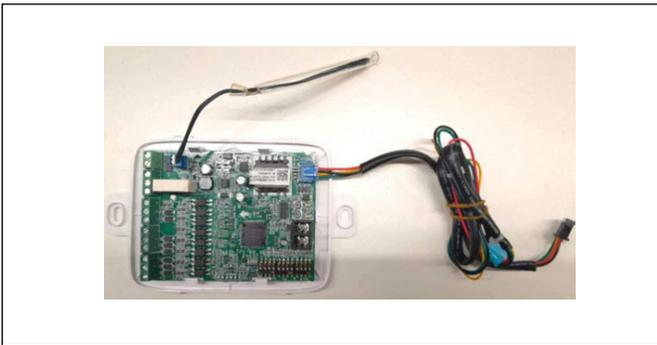

Figure 6
5. Make sure that all the connections are according to the wiring diagram (Fig. 6). Ensure that the 24V Transformer (installer-supplied) is connected correctly.